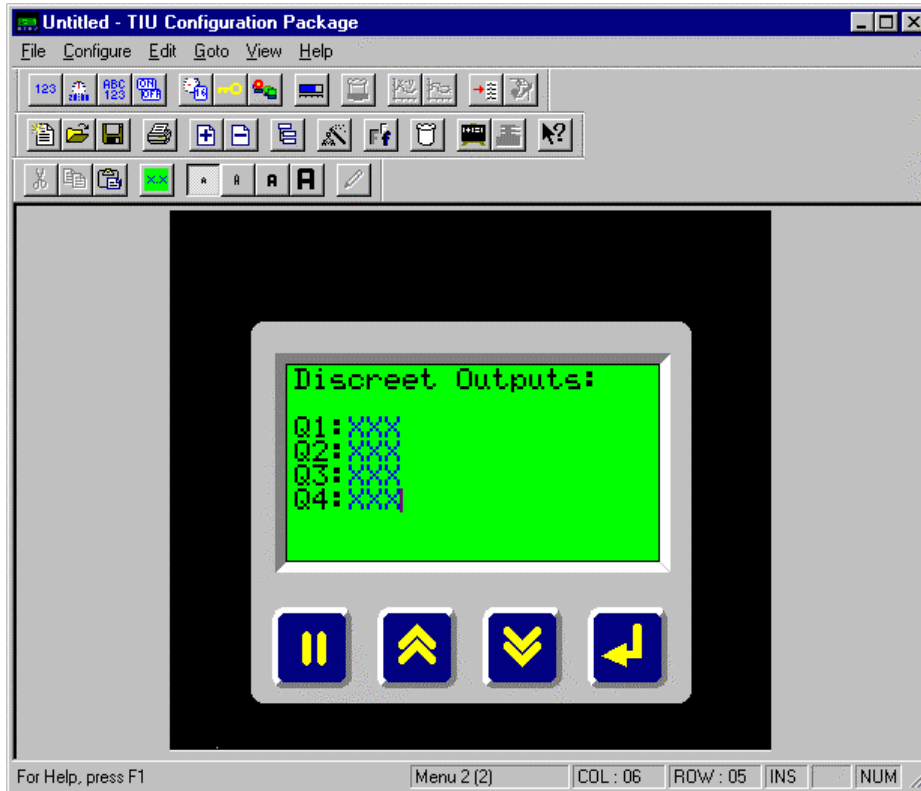

Figure 7.9 – Menu Page 2(2)
4. Do the same for Q2, Q3 and Q4 on lines 4, 5 and 6, incrementing the Bit Number by one. These discrete outputs will simulate coils. Menu Page 2(2) should be the same as Figure 7.9.